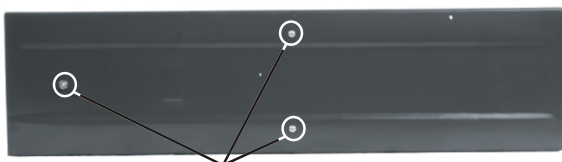

Figure 15
1. Remove the nuts from the anchor studs on the bottom of the shipping frame. As shown in Fig. 15.